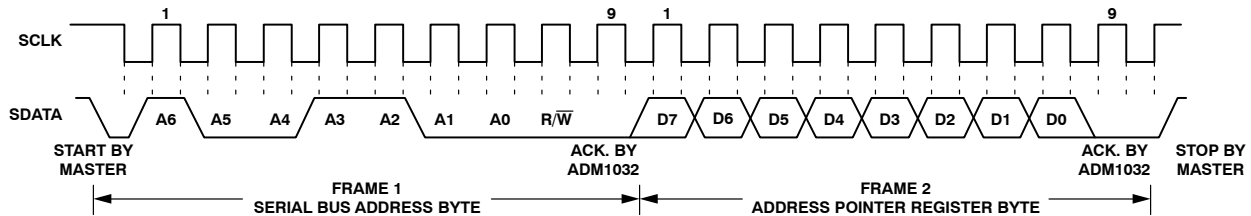
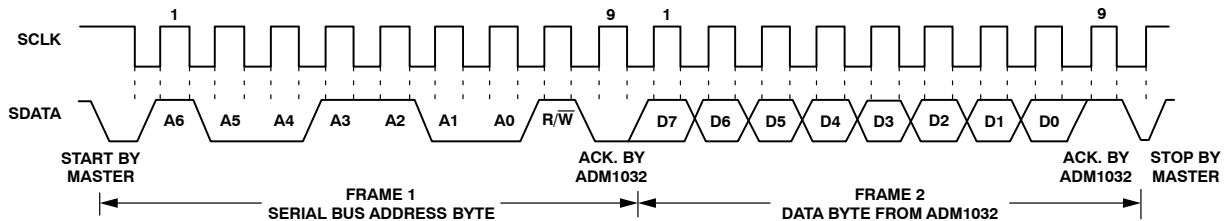

Figure 14. Writing to the Address Pointer Register Only
Figure 15. Reading Data from a Previously Selected Register
1. If the address pointer register value is unknown or not the desired value, it is first necessary to set it to the correct value before data can be read from the desired data register. This is done by performing a write to the ADM1032 as before, but only the data byte containing the register read address is sent because data is not to be written to the register. This is shown in Figure 14. A read operation is then performed consisting of the serial bus address,  $R/\overline{W}$  bit set to 1, followed by the data byte read from the data register. This is shown in Figure 15.
2. If the address pointer register is known to be at the desired address already, data can be read from the corresponding data register without first writing to the address pointer register and Figure 14 can be omitted.